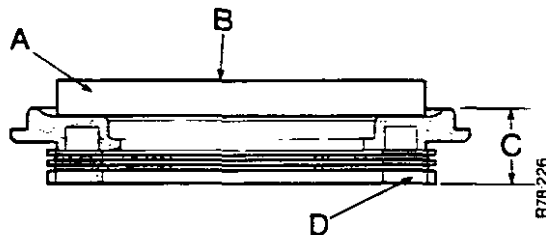

FIGURE 39 CHECKING THE CLUTCH PLATES
3. Make sure that the clutch plates, backing plates and piston are dry. Assemble the parts, then put a weight of 1130 kg onto the assembly. See figure 39.